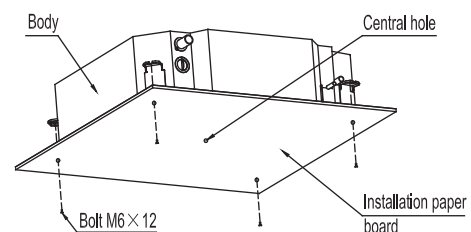

Fig.1-6
- 2 After installing the body, please fasten the installation paper board onto the air conditioner with bolts(M6X12) to determine in advance the sizes and positions of the hole opening on ceiling.(Refer to Fig.1-6)